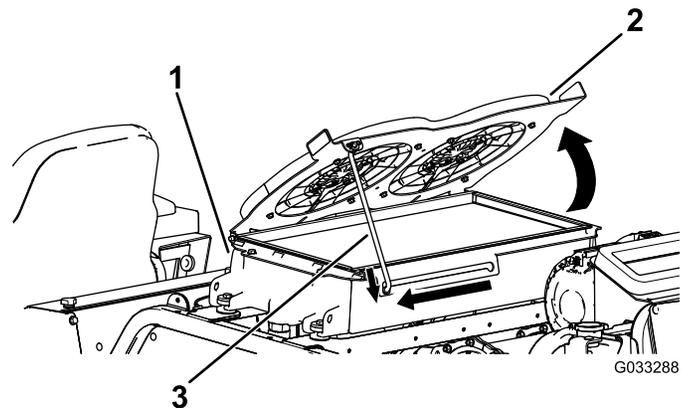

Figure 122
2. Pivot the hydraulic-cooling fans upward and lock the prop rod into the notch (Figure 122).